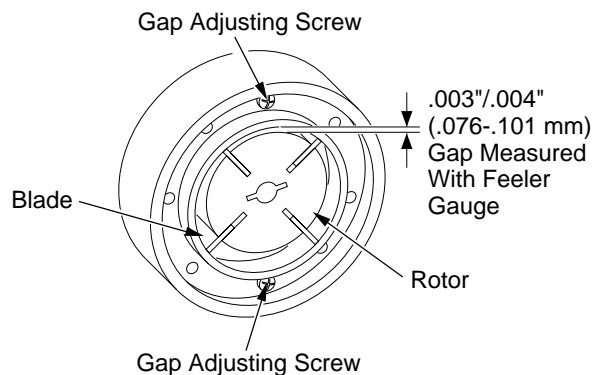

Figure 31 - Gap Adjusting Screw Locations
9. Check gap on rotor. Adjust to .076/.101 mm (.003"/.004") if needed (see Figure 31).